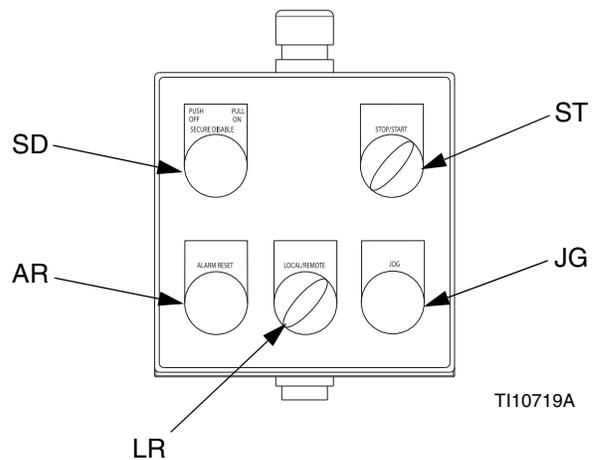

FIG. 4: Local Control Box
The local control box contains five controls. See Fig. 4.
1. Set START/STOP switch (ST) to STOP. See FIG. 4.
2. Push in SECURE DISABLE (SD) switch.
3. Set START/STOP switch (ST) to STOP. See FIG. 4.
3. Push in SECURE DISABLE (SD) switch.
4. Set START/STOP switch (ST) to STOP. See FIG. 4.
5. Pull the SECURE DISABLE switch (SD) out to disengage it.